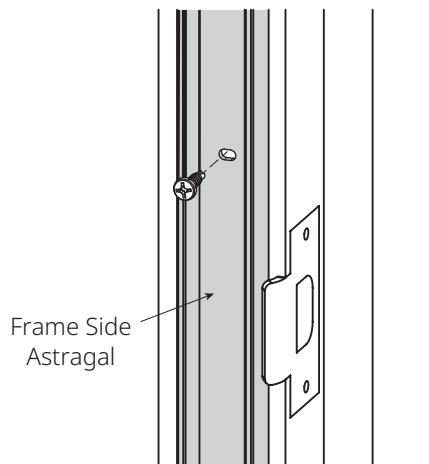

Figure 4:
3. Install three alignment Tek screws into the slot side that is furthest away from the strike plate door edge as shown in Fig. 4: One screw at the slot closest to the strike plate, one at the top most slot and bottom most hole on the frame piece.